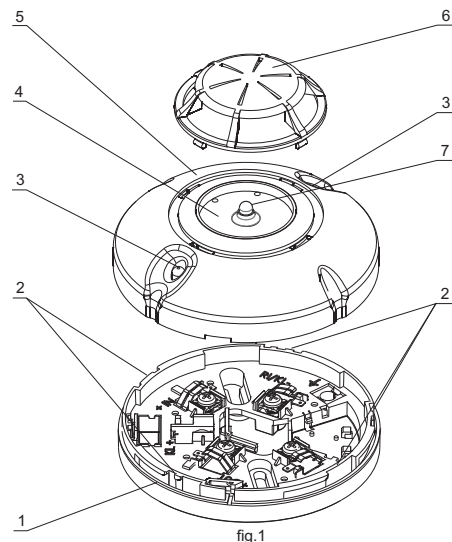
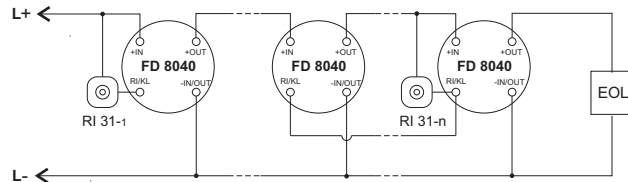

fig.1
fig.2
The fire detector consists of (fig.1) printed board, mounted in a plastic body with optical filter and bottom side. The flat point pivot screw (optional) prevents the fire detector of unauthorized removal. A 2 mm tip screwdriver is required for locking and unlocking. The two red LEDs of the fire detector (fig.1) are indicating fire condition, providing 360 angle visibility. It is recommended that the fire detectors are mounted in premises, where a possible development of fire condition is supplemented by flame. Avoid mounting in premises with flickering lights. The fire detectors shall be mounted on the ceiling in a way, that do not allow exposure to direct sunlight.
- Fix the base to the ceiling of the protected premise using fixing screws and wood screws. Complete the electrical wiring as shown on (fig.2), and according to the rational design of the premise. Fix the fire detector to the base by means of bayonet joint (fig1.pos1). When fixing, make sure that the bench mark of the detector stands about 20 mm below the respective bench mark of the base so that the plastic channels fully coincide (fig1.pos2), then rotate clockwise to complete location (fig3.pos1). The bench marks should fully coincide (fig3.pos2).
- * Remove the detector from the base , than remove the chamber from the detector (fig1.pos6.)You can use for a cover a cleaning materials, washing and drying.The optical chamber and the photodiode you have to clean with clean cloth .